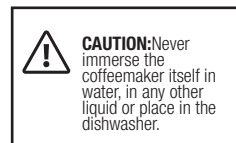

Figure 26
- 1 Remove the Removable Splash Guard, Removable Filter Basket, Reusable Filter (If included), Carafe and Carafe lid and wash them in a solution of hot water and mild liquid soap. (Figure 26)